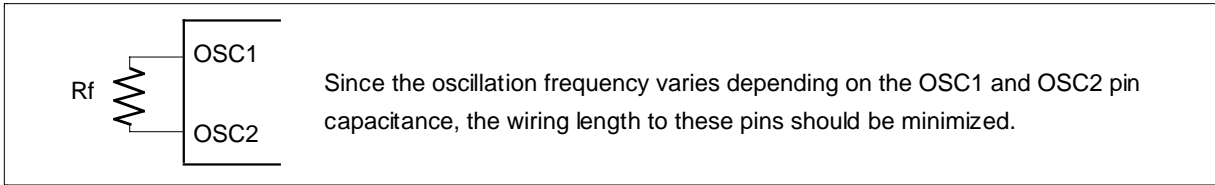

Figure 53 Internal Oscillation
10. Applies to the internal oscillator operations using external oscillation resistor Rf (figure 53 and table 26).